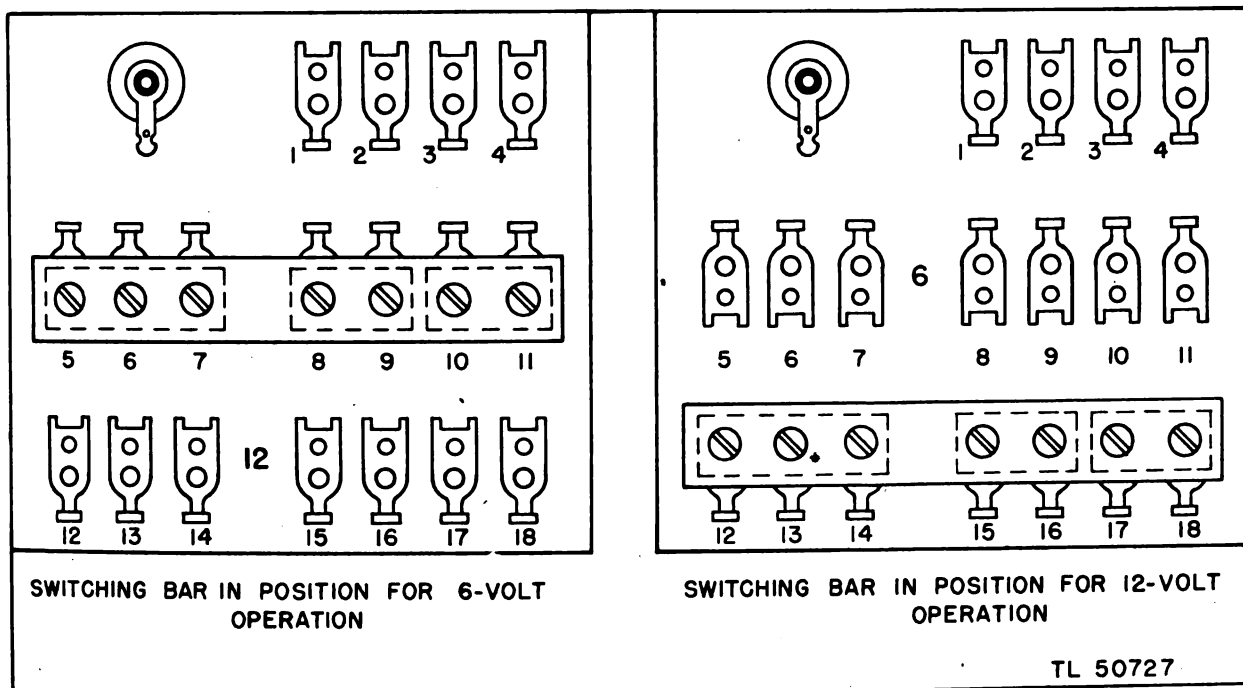

Figure 8. Switching panel diagram, Voltage Converter PP-49/VVX-1.
b. For 6-volt d-c operation of Voltage Converter PP-49/VVX-1 (fig. 8), the switching plate must cover the position marked 6. For 12-volt d-c operation, the switching plate must cover the position marked 12.